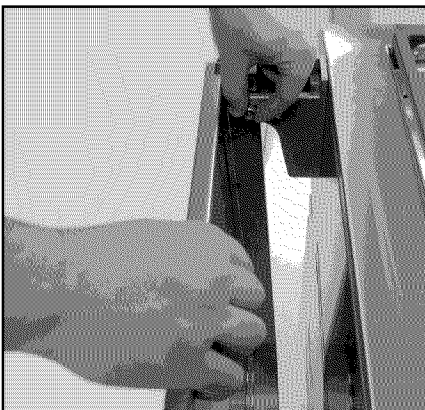
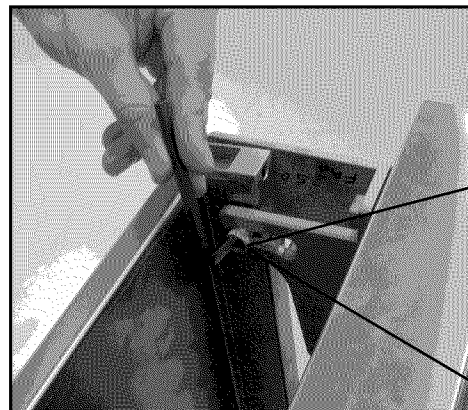

Fig. 48
Fig. 49
3. Holding the side shelf, install 2 shoulder bolts into the slot and screw into the side shelf tray (Fig. 48). Tighten with a 3/16 Allen wrench (Fig. 49).